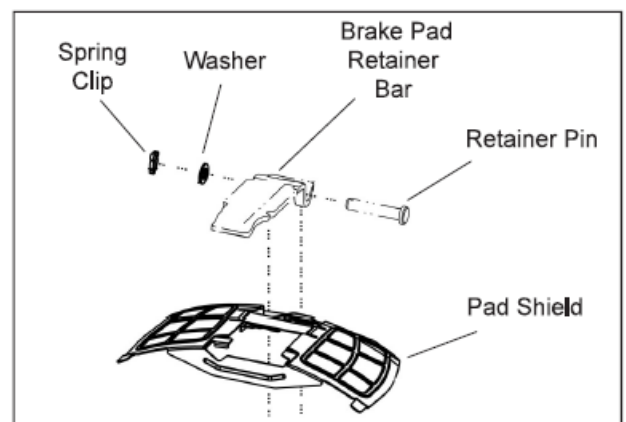

Figure 6: Pad Shield
8. Remove and retain the pad shield (if equipped). See **Figure 6**.